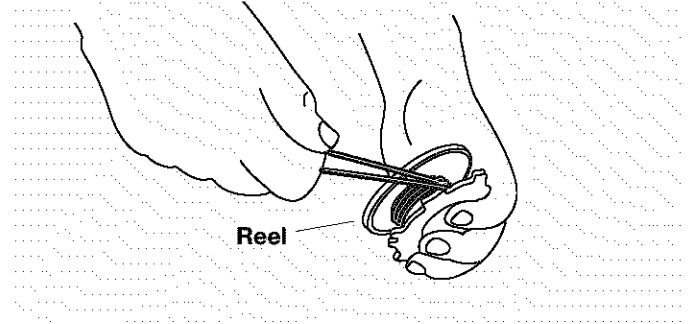

Fig. 24
2. Place your index finger between the two lines to stop the lines from overlapping (see Fig. 24).
3. Wind both lines at the same time in even and tight layers onto the reel, in the direction indicated on the reel (Fig. 24).